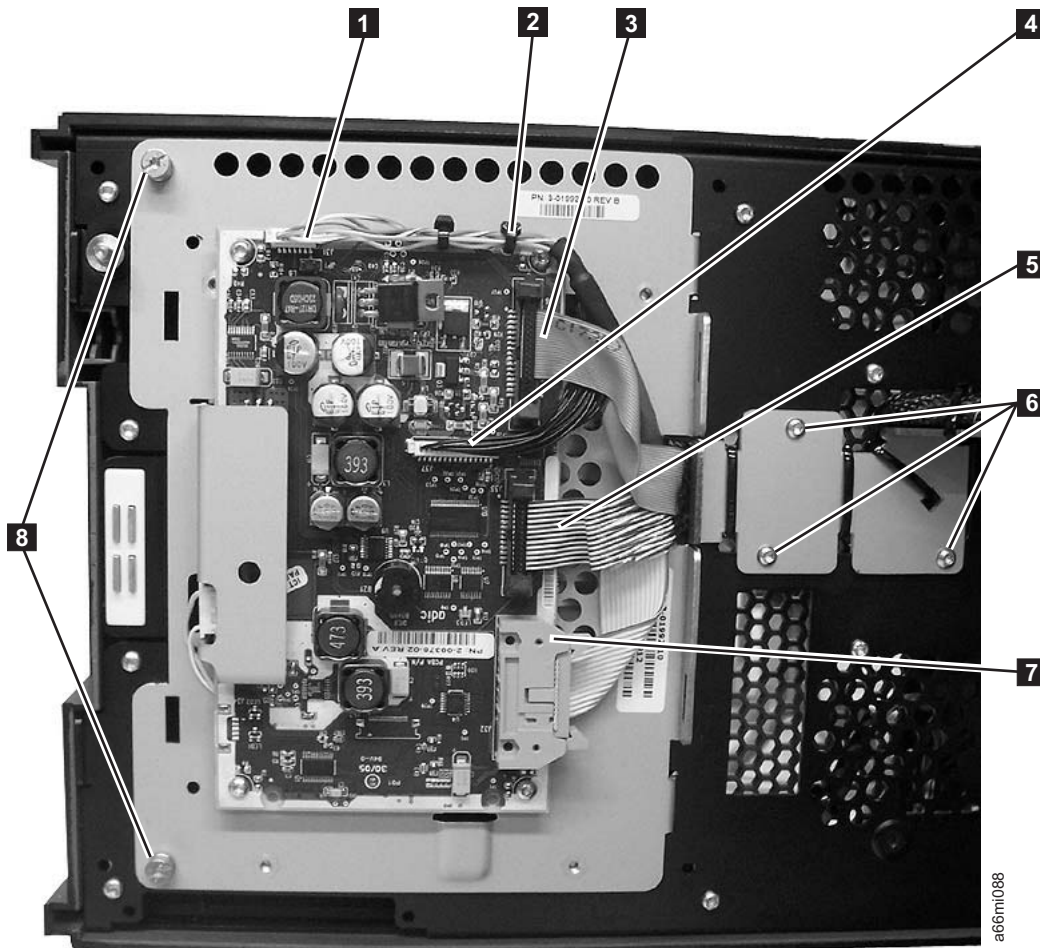

Figure 8-17. Operator Panel cabling
Operator panel problems may be caused by loose connectors. Visually check, and reseat if necessary, all of the connectors on the back of the operator panel (Figure 8-17 on page 8-23), the connector on the back of the I/O Station locking mechanism (**1** in Figure 8-15 on page 8-22), and the connectors that are located between the storage column 4 magazine and the back of the Library Control Blade (**2** and **3** in Figure 8-16 on page 8-22).
4. Disconnect the four cable connectors that are attached to the Operator Panel (see **1** , **3** , **5** , and **7** in Figure 8-17).
5. Cut the cable tie (**2** in Figure 8-17) if necessary.
6. Unscrew the two captivated screws (**8** in Figure 8-17) located on the left side of the Operator Panel.